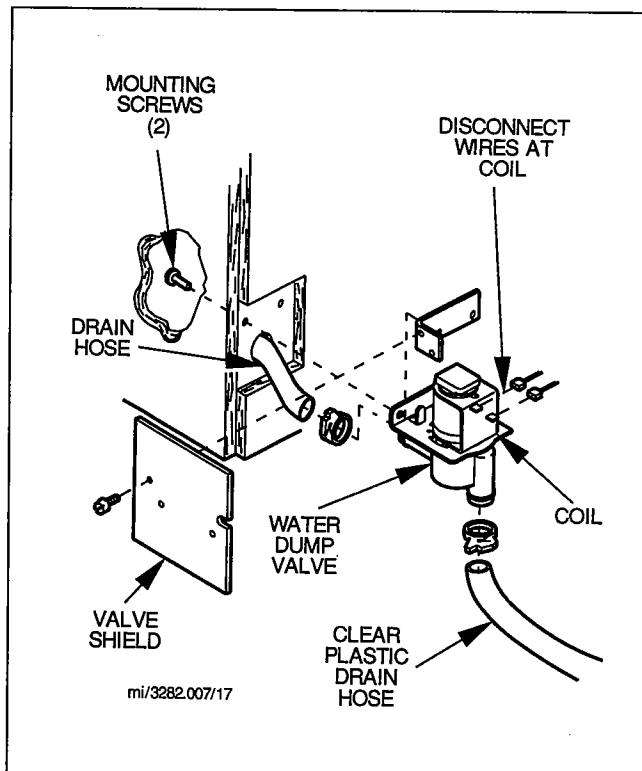

FIGURE 17. WATER DUMP VALVE REMOVAL
3. Check clear plastic outlet drain hose of dump valve, Figure 17, for leakage while the ice machine is in the freeze mode.
Remove Water Dump Valve (Figure 17)